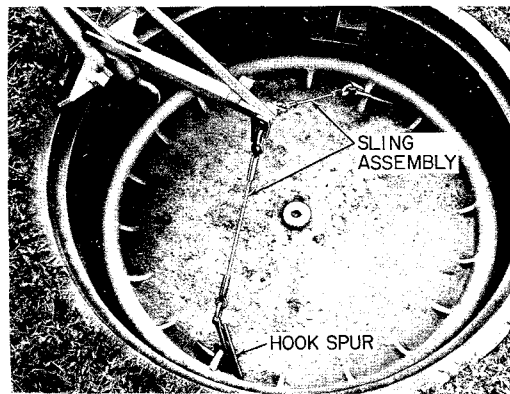

Fig. 28—♦Engaging Sling Hooks on Inner Cover♦
(3) Slide the boom adjuster down the C cover lifter handle to the 30B designation (for 30A inner covers) or to the 27B designation (for 27A inner covers) and insert the locking pin.
(4) Remove the locking pin in the upper end of the main handle, position the adjustable T handle to the retracted position, and replace the pin. *Engage the sling hooks in the hook holes in the rib of the cover as shown in Fig. 28, making sure that both sling hook spurs are pointing away from the fulcrum and that they engage the cover edge.*
6.06 To replace inner “A” covers, engage the sling hooks into the hook holes in the ribs of the cover as shown in Fig. 28 and **ensure that both sling hook spurs are pointing away from the fulcrum and that they engage the cover edge.** Position the boom adjuster as described in paragraph 5.09 (3). Press downward on the tool handle until the cover clears the ground and, while maintaining pressure on the handle, walk sideways, rotating the cover toward the manhole frame. Repeat this procedure,